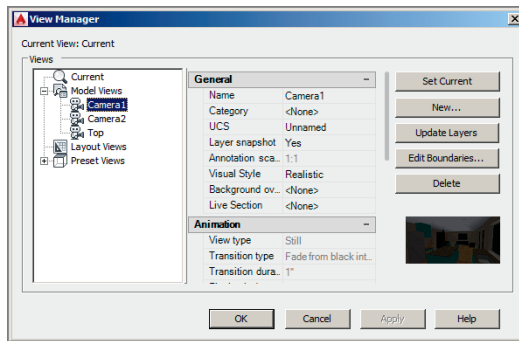

FIGURE 18.9 Selecting a predefined camera view
13. Type **V** (for View), and press Enter. Double-click Camera 1 in the View Manager (see Figure 18.9). Click Apply and OK.